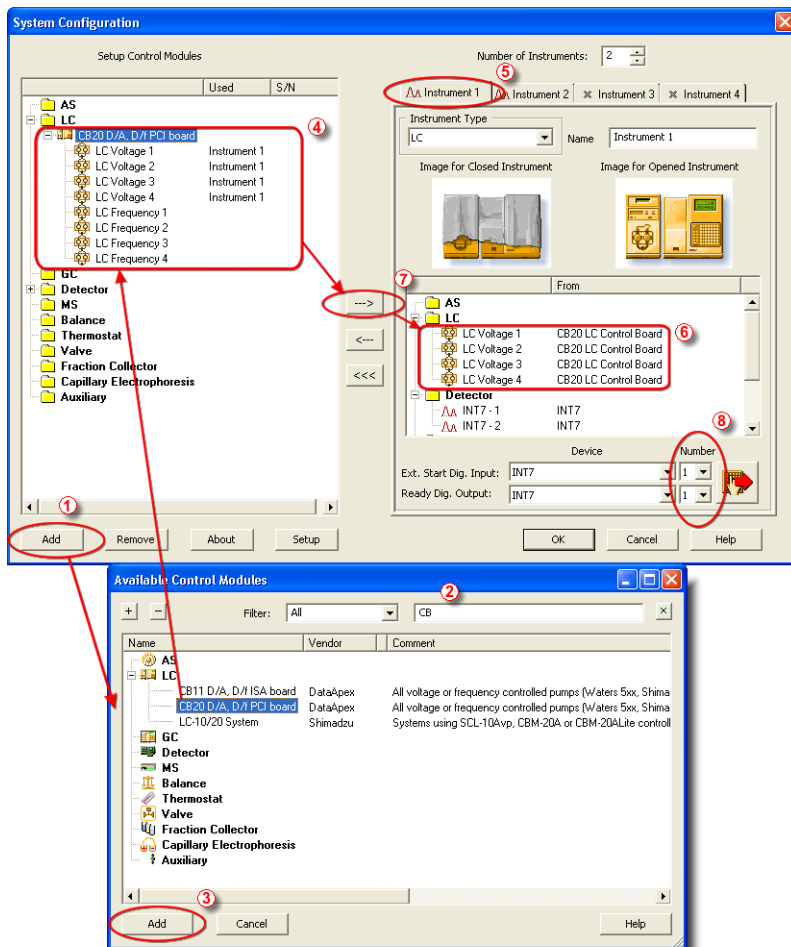

Fig 2: System Configuration
- Press the **Add** button (1) (see Fig 2 on pg 4.) to invoke the **Available Control Modules** dialog.
- You can specify the searching filter (2) to simplify the finding of the driver.
- Go to the **LC** section, select the **CB20 D/A, D/f PCI board** and press the **Add** button ③.
The **DataApex CB-20 Setup** dialog sets the parameters of the **CB20 LC** control board. The dialog is accessible only from the **System Configuration** dialog, please see **Fig 2** on pg 4.